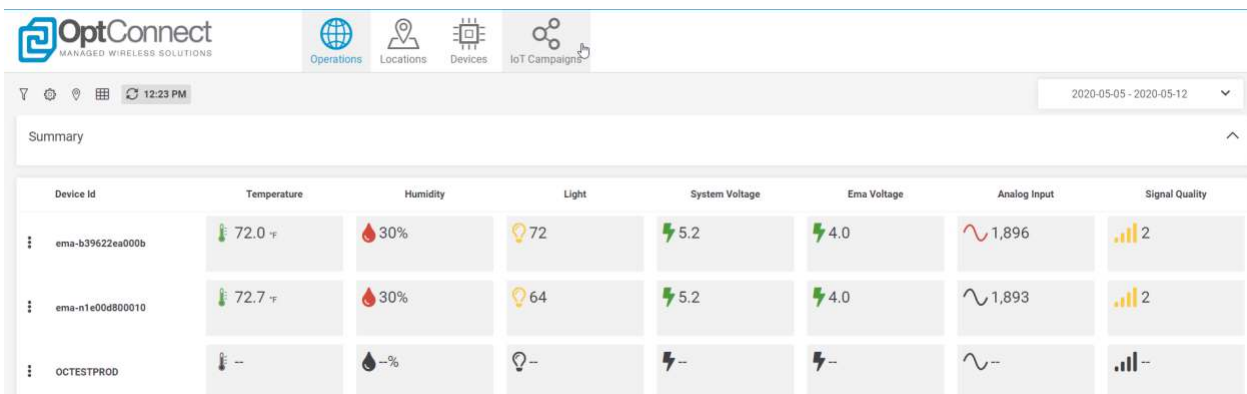

Figure 45
1. From the Canopy dashboard, navigate to the “IoT Campaigns” page as shown in *Figure 45*.